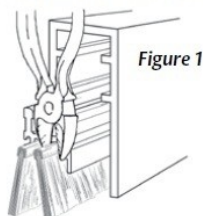

Figure 1
6. For nylon brush seal, use bolt cutters or diagonal cutting pliers that will pinch the strip to retain the bristles (as shown in Figure 1).